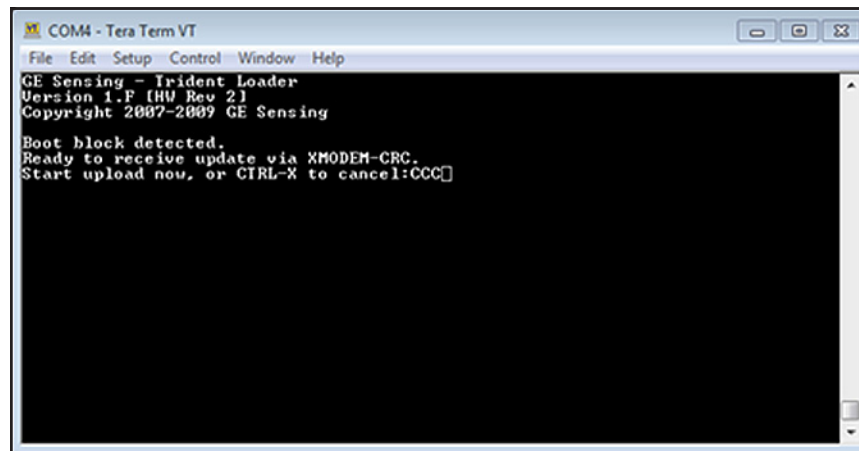

Figure 7: Tera Term Indicates Meter Ready to Receive Update
5. In the *Tera Term* terminal window (see *Figure 7* below), select *File*, *Transfer*, *XMODEM*, and *Send* in the subsequent drop-down menus.